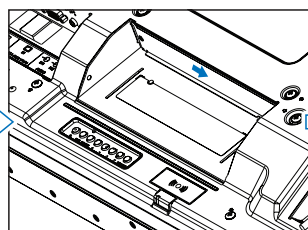
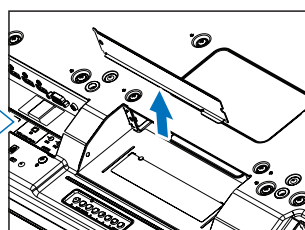

Figure 2
Figure 3
3. Remove the attached slot cover by unscrewing the installed screws (**Figure 1**), sliding it to the right (**Figure 2**) and moving it up (**Figure 3**).